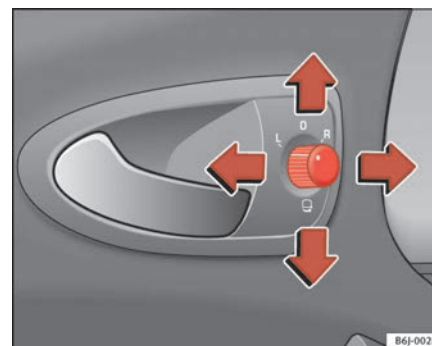

Fig. 64 Controls of exterior mirrors
1. Turn knob ⇒ fig. 64 to position **L** (**left exterior mirror**).
- Turn the control ⇒ page 101, fig. 64 to position  to fold in the wing mirrors. You should always fold in the exterior mirrors if you are driving through an automatic car wash. This will help prevent damage.